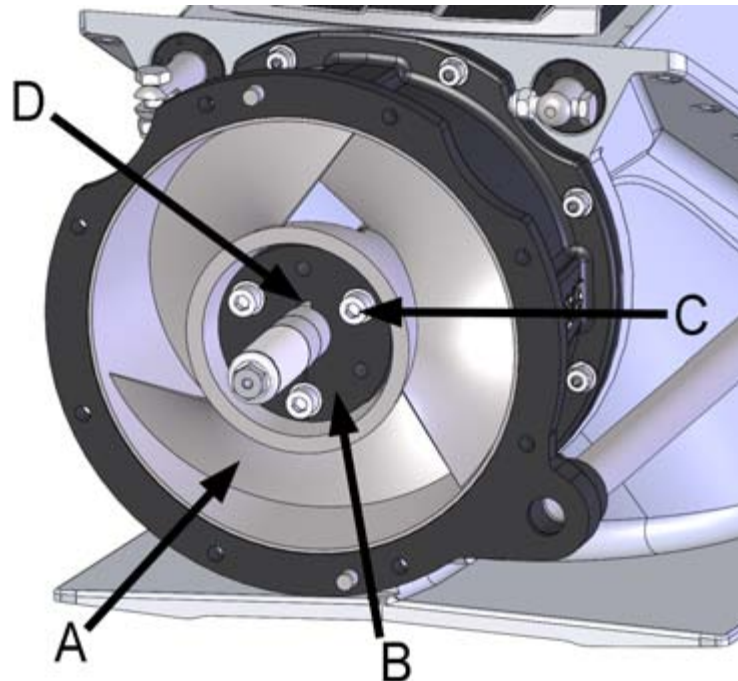

Figure 37. Impeller
The impeller (figure 37, point A) is attached to the jet's main shaft. As the impeller rotates, it generates pressure that is then transformed into the flow rate.
The impeller is attached to the shaft using a plastic cone (figure 37, point B), tightened between the impeller and shaft using three screws (figure 37, point C). The torque is transmitted to the shaft using a wedge (figure 37, point D).
1. Open the impeller fastening cone screws (3 pcs, figure 37, point C).